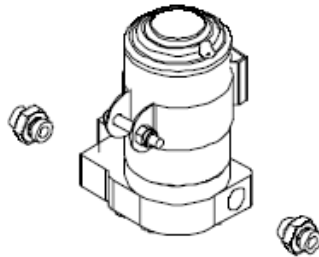

Figure 1-1
- 1-5. Apply pipe thread sealant to one end of each of the two 3/8-NPT hex nipples and thread into each side of the Aeromotive fuel pump. (Figure 1-1)